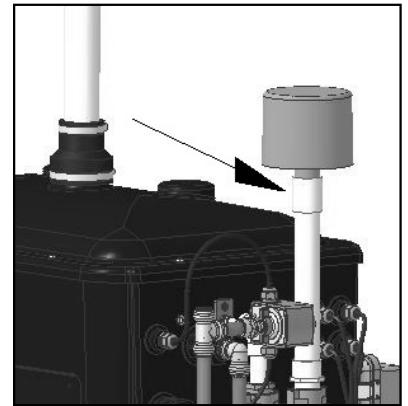

Figure 14
1. Install air filter provided using the PVC pipe and fittings provided (Fig 14).